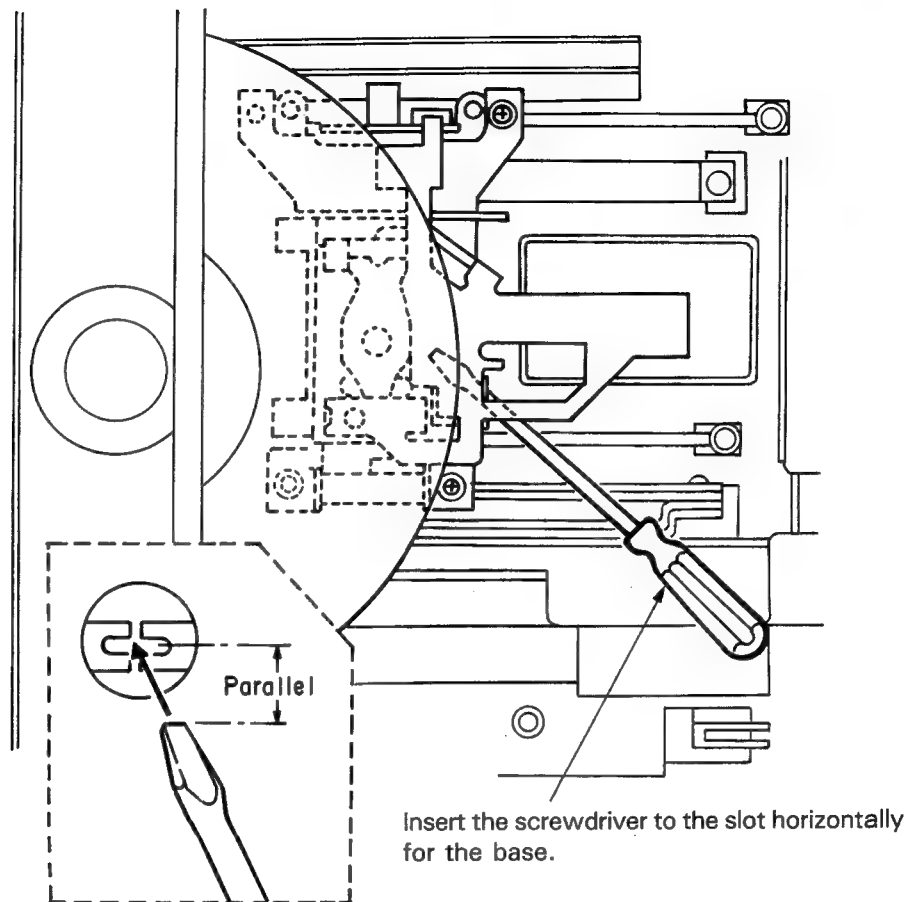

Fig. 2
6. Insert the flat bladed  $\ominus$  screwdriver (small) into the grating adjustment hole horizontally (Fig. 2.).